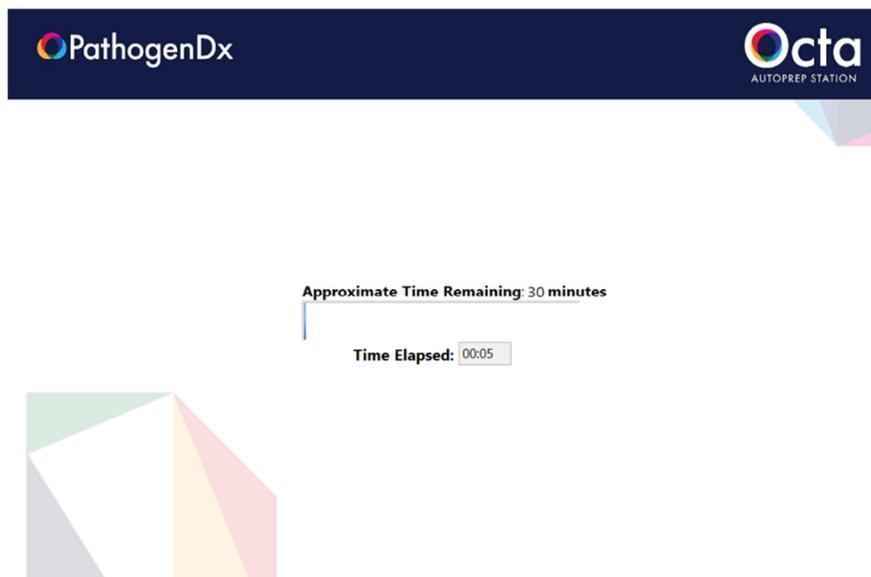

Figure 15: The Octa AutoPrep Station Timer
4. During the protocol, the Octa AutoPrep Station will initiate a countdown until the protocol is complete, as shown in Figure 15.